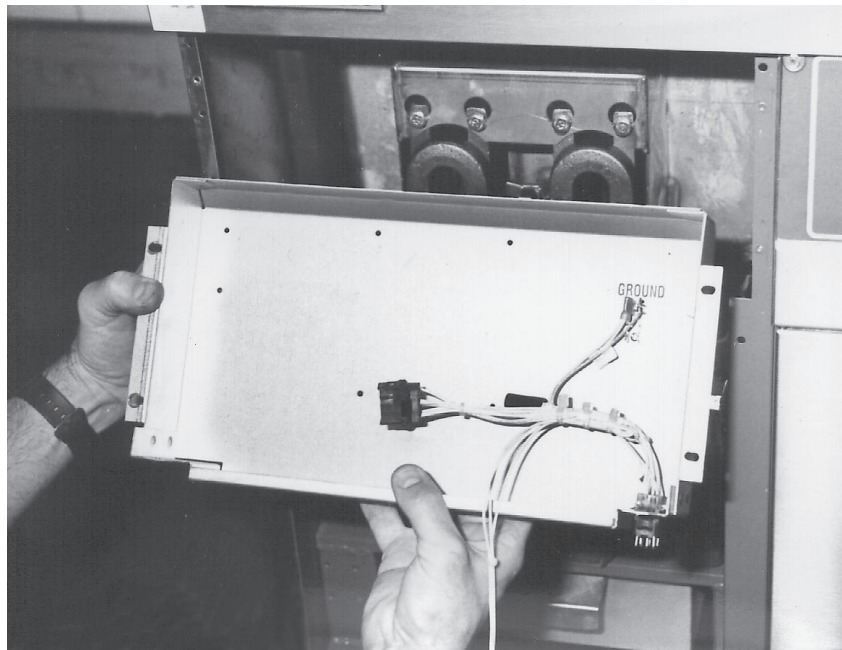

Fig. 27
4. Pull housing from the cooker. (Fig. 27)